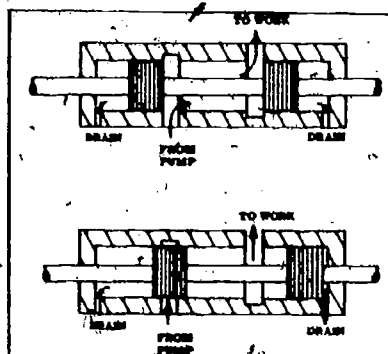

Fig 4-7. Simple directional control valve.
- (b) Directional control valve. This valve directs the fluid flow to the desired part of the hydraulic system. Some of the valves work automatically, but the one illustrated in figure 4-7 is moved by the operator or another force. The valve shown blocks the fluid flow or opens ports to allow flow. It will allow the fluid to flow in one direction only, but there are valves which provide passages for fluid return and bypass. Study the illustration and you can see that when both large passages are open the fluid flows to the work. By moving the spool valve the passage from the pump can be closed off and stop the flow, but the fluid to the work is also trapped. The drains at each end prevent leakage by the spool (hydrostatic lock) causing the valve to lock in position. By combining two of these valves, a return passage for the fluid from the work could be provided.